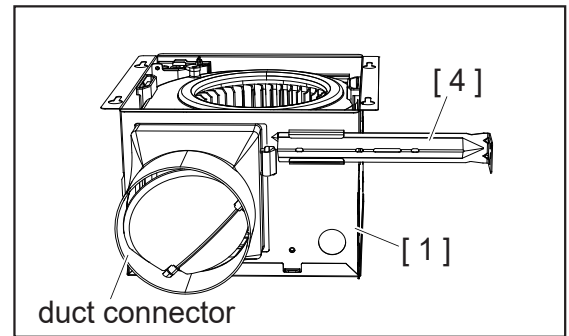

Fig 10
1. Insert Short Bracket [4] to the slot at the duct side of Fan Body [1] as figure shows. (Fig 10)